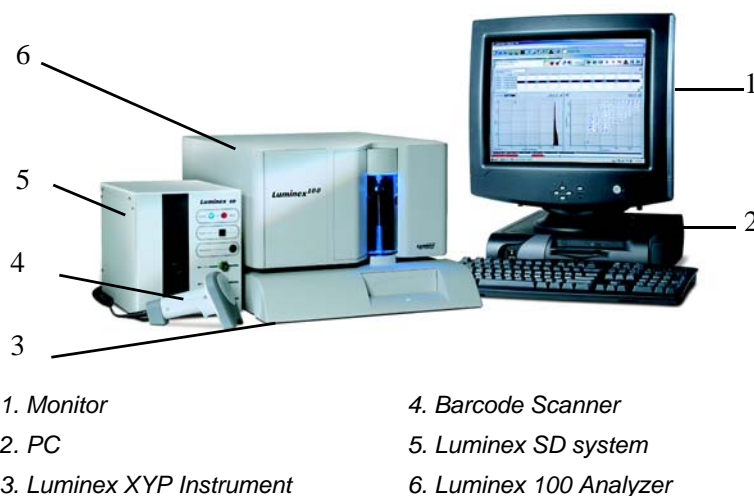

Figure B-1 Luminex 100 IS System Setup
The following sections describe how to connect the Luminex 100 IS system components. An Installation Drawing (page B-27) provides clearances and other related information. Figure B-1 shows the components of the system and how they should be placed.
5. Place the Luminex 100 analyzer onto the Luminex XYP instrument. See Figure B-1 and Figure B-3 for positioning.